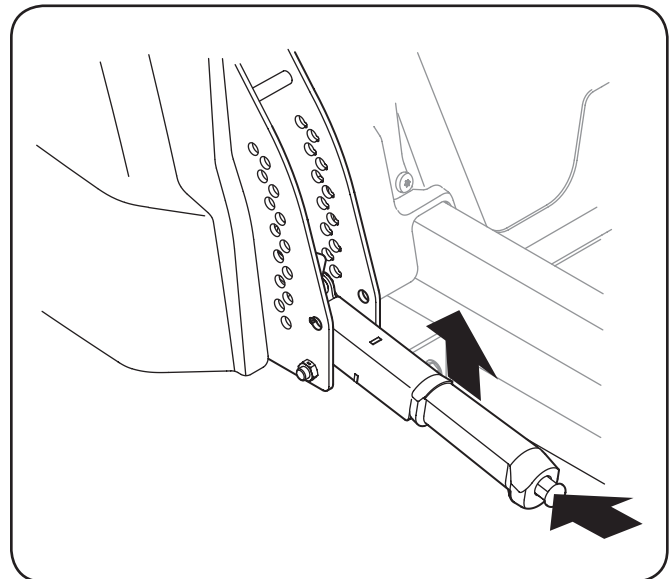

Figure 5-10
3. Use the deck lift handle to raise the deck to its highest position by depressing the button at the end of the handle and pulling upwards. Make sure the latch engages on the pin. See Figure 5-10.